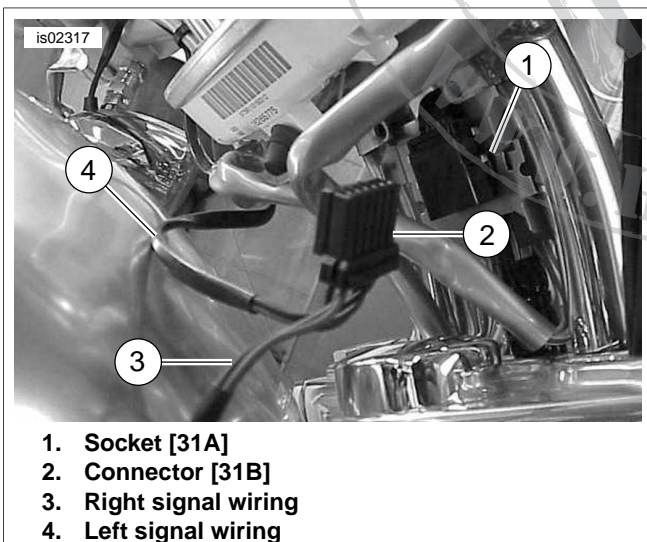

Figure 3. Remove Connector and Turn Signal Wiring (2002-2003 models)
- a. **For 2002-2003 models**, see Figure 3. Gently pull wiring with instrument cluster away from the handlebars. Locate turn signal connector [31B] and disconnect from socket [31A]. Note left and right turn signal wire locations. Follow instructions in Service Manual under Multilock Electrical Connectors (Socket Terminal Removal/Installation) and remove left and right front turn signal socket terminals from connector. Proceed to Step 6.